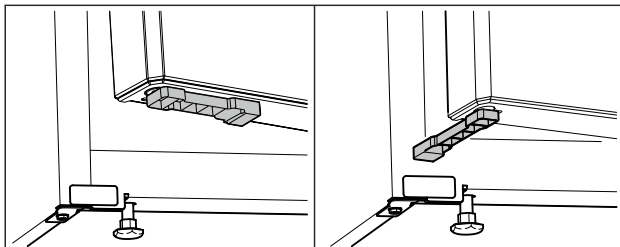

Fig. 73 *
- ▶ Turn door spacer by 90°. (see Fig. 73) *